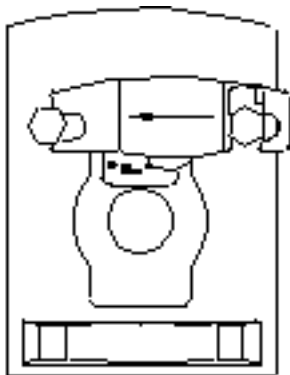

Figure 12.
5. To reattach the knife holder, place the left slot over the left shoulder screw. Rotate the knife holder clockwise until the right slot slides over the right shoulder screw. See Figure 12.